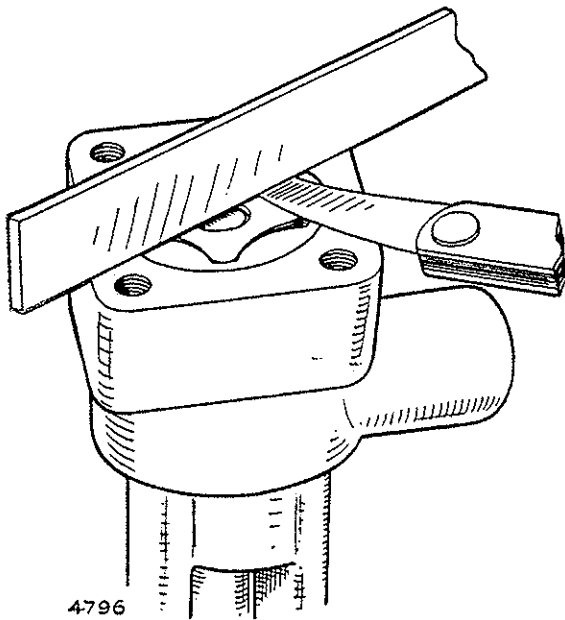

Fig. B.12. Checking the end float between the rotors and the pump body
- (a) The end clearance between the inner and the outer ring and the pump body. The maximum and minimum are 0.003 in. (0.076 mm.) and 0.001 in. (0.025 mm.) when measured with a feeler and straight edge as shown in Fig. B.12.